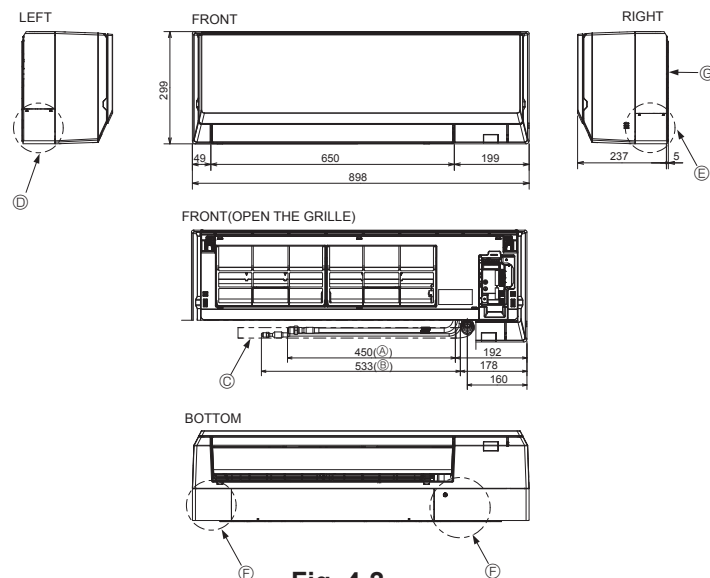

Fig. 4-2
4.2. Positioning refrigerant and drain piping (Fig. 4-2)
- (A) Gas pipe
- (B) Liquid pipe
- (C) Drain hose (Effective length: 500)
- (D) Left-side piping knockout hole
- (E) Right-side piping knockout hole
- (F) Lower piping knockout hole
- (G) Mount board (1)